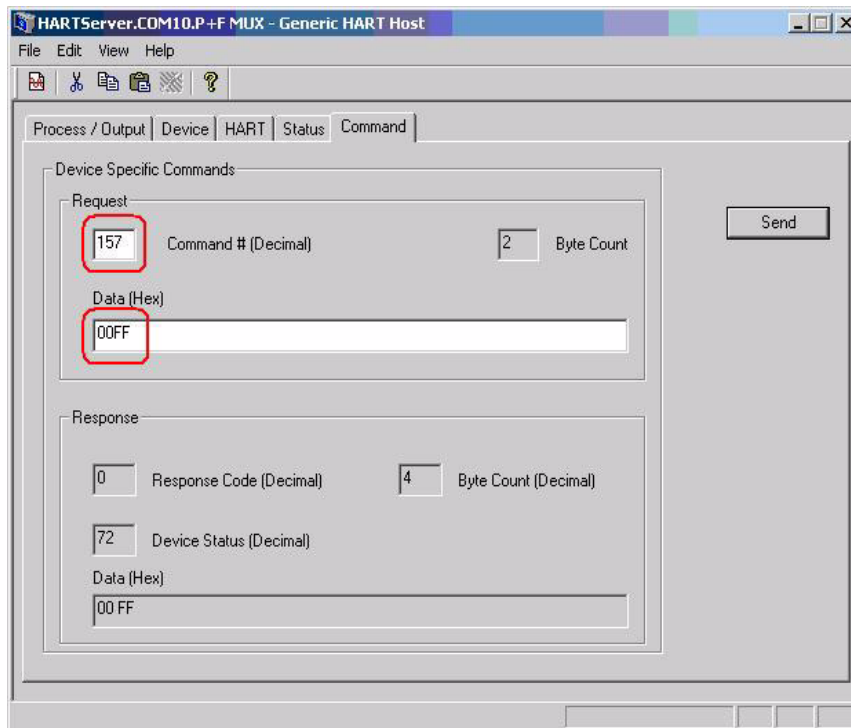

Figure 90. HART Server - Enabling Slaves
4. In the command tab, as shown in Figure 90, enter the request '**157**' with: